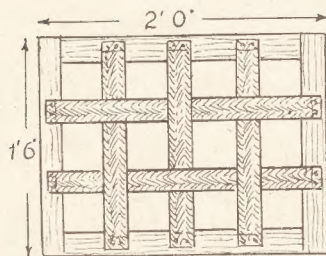

Fig. 1—The webbing on its frame
Tack the webbing to one side of the frame, then place the strainer at the other side, as at (D), and press downwards to tighten up the webbing as much as possible. Keep it so while tacking it down to the wood. When tacking the cross webs, weave them under and over, as in the diagram Fig. 1.